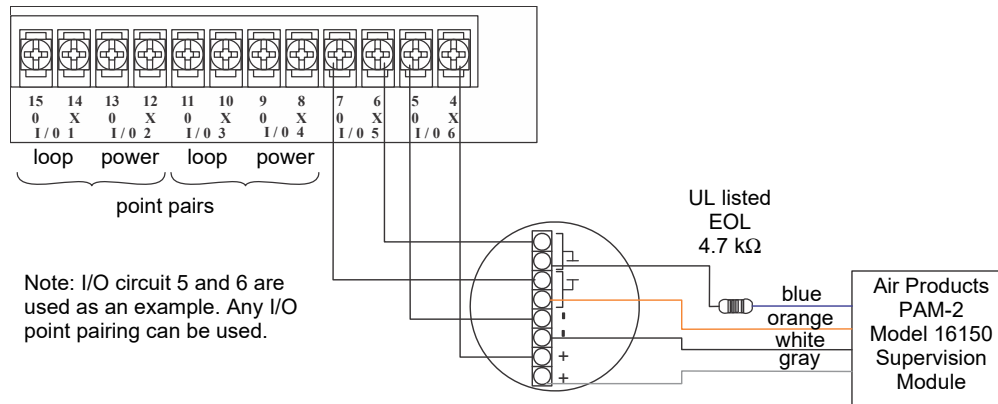
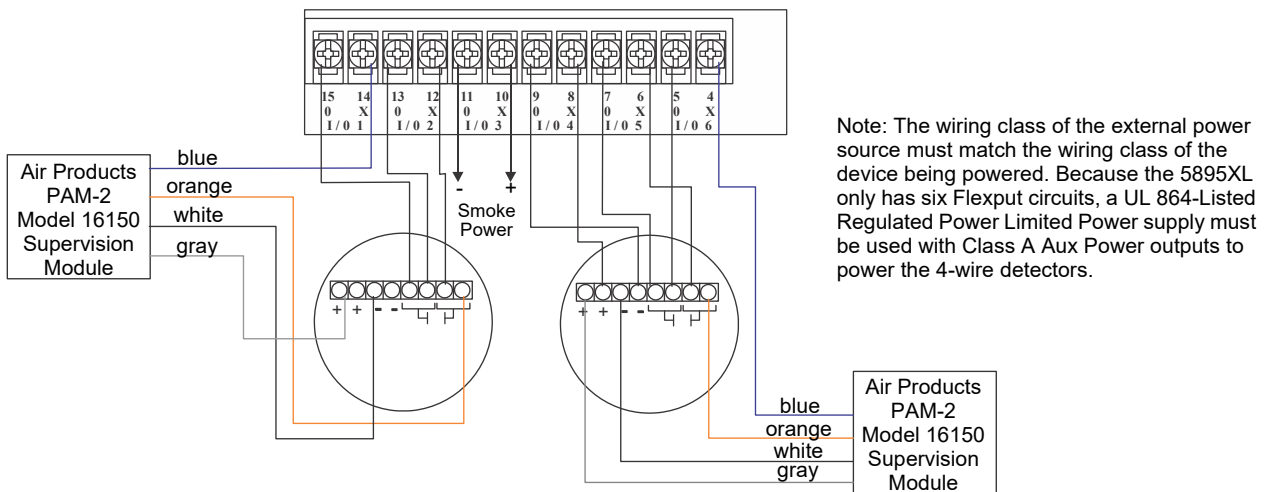

Figure 3.16 Class B 4-Wire Smoke Detector Connections
Figure 3.17 Class A 4-Wire Smoke Detector Connections
Any compatible UL listed two-wire smoke detector can be used with the 5895XL panel. Refer to the *Device Compatibility Document* for a list of compatible devices. Figure 3.16 and Figure 3.17 illustrate how to connect a UL listed four-wire detector to the 5895XL panel.
Figure 3.16 illustrates how to install Class B 4-wire smoke detectors.
2. Each Class B loop input is paired with a unique power source as shown in Figure 3.16.
NOTE: In programming, any point that uses multiple I/O circuits are always referred to as the lowest I/O circuit number used. For example, Figure 3.16 uses both I/O circuit 5 and 6, so in programming it would be referred to as point 5.
Figure 3.17 illustrates how to install Class A 4-wire detectors.
2. Smoke power is supplied to each Class A loop as shown in Figure 3.17.
NOTE: In programming, any point that uses multiple I/O circuits are always referred to as the lowest I/O circuit number used. For example, since Figure 3.17 uses I/O circuits 1, 2, 3 together and 4, 5, 6 together they would be referred to as point 1 and point 4.